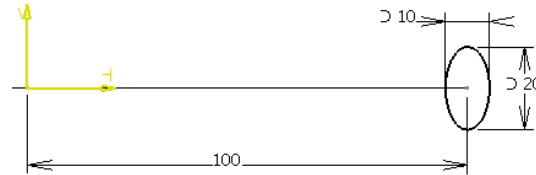

Figure 9-59 The sweep profile
5. Draw an ellipse, as shown in Figure 9-59, and exit the **Sketcher** workbench.